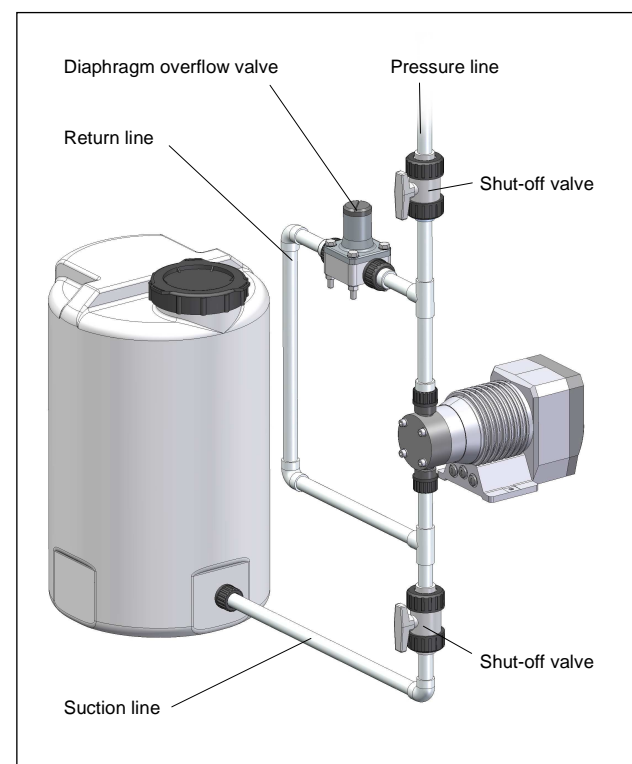

Fig. 17 System with (external) overflow valve
- or connect the overflow line directly to the pump suction line, but only if there is no check valve inside the suction line (e.g. foot valve of a suction lance) (please see Fig. 17).